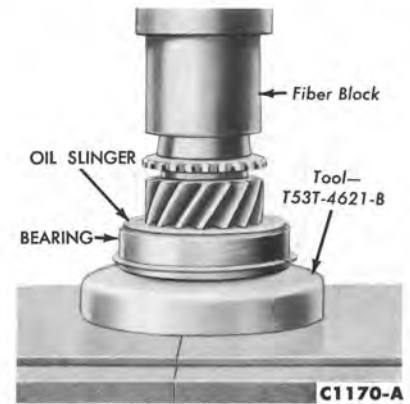

FIG. 9—Input Shaft Bearing Installation
1. Press the input shaft bearing and oil slinger onto the input shaft, using the tool shown in Fig. 9, and install the snap ring on the shaft.